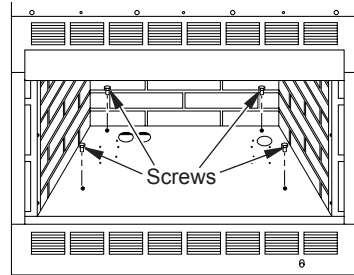

Figure 1 - Removing Screws from Firebox Bottom
- Remove the 4 screws that secure the bottom of the firebox (see Figure 1).